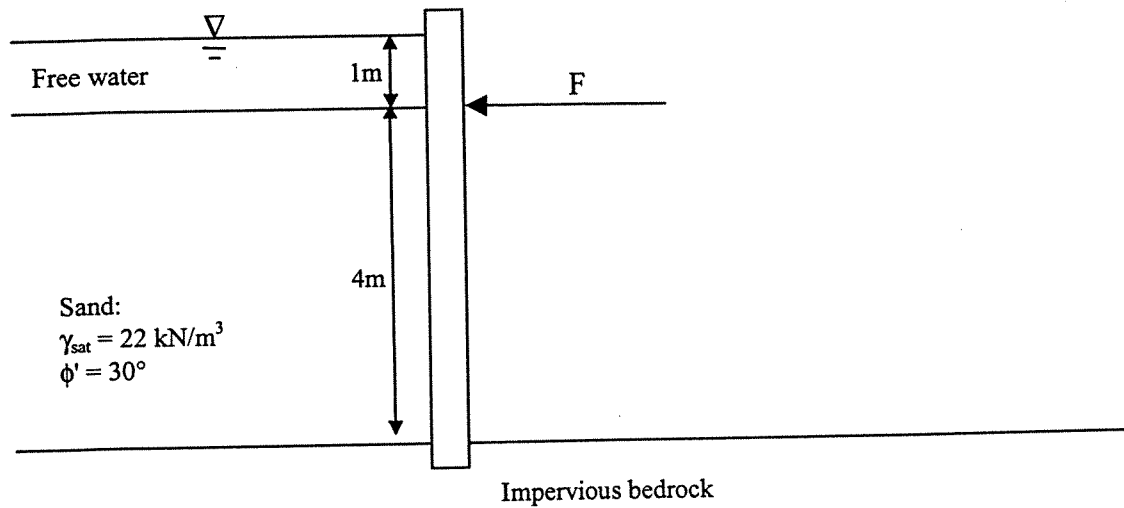

Figure Q.5
5. Consider the rigid retaining wall illustrated on Figure Q.5. Calculate the force “F” required to prevent the wall from moving. Assume that the base is restrained horizontally but is free to rotate.